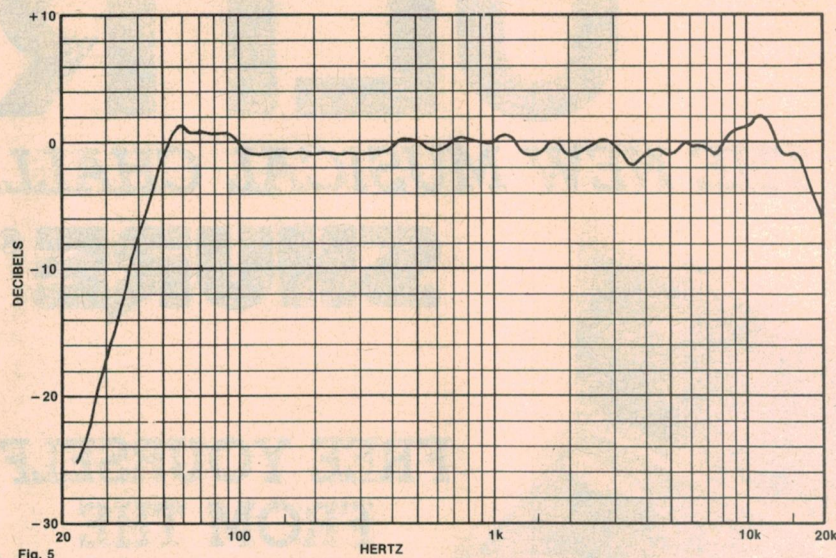

Fig. 5
**Fig.5: The frequency response curve of a full-scale domestic loudspeaker system using Philips drivers and a Philips designed sealed enclosure. It could readily cope with low-end bass boost.**
By way of example, a large, 3-way loudspeaker system marketed by Philips for commercial or home construction, includes a 30cm bass driver having a cone resonance, unmounted, of 20Hz. Installed in the recommended fully sealed 100-litre (3.6 cu ft) enclosure, the bass resonance rises to about 50Hz, giving full output at that frequency and a useful response extending to below 30Hz (Fig.5). Rated power handling capacity for the system is 100W.